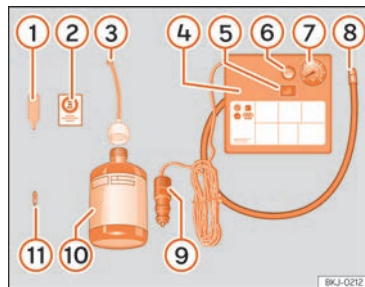

Fig. 193 Standard display: contents of the anti-puncture kit.
The anti-puncture kit is located underneath the floor covering in the luggage compartment. Includes the following components »» Fig. 193:
- Unscrew the tyre valve cap and insert. Use the device >>> Fig. 193 ① to remove the valve cap. Place it on a clean surface.
- Shake the tyre sealant bottle vigorously >>> Fig. 193 ⑩.
- Screw the tyre inflation hose >>> Fig. 193 ③ into the tyre sealant bottle. The bottle's seal will break automatically.
- Remove the filler cap >>> Fig. 193 ③ and screw the open end of the tube into the tyre valve.
- Replace the howitzer with the device >>> Fig. 193 ① onto the tyre valve.
- Screw the tyre inflation tube of the compressor >>> Fig. 193 ⑧ on the tyre valve.
- Check that the air evacuation screw is closed >>> Fig. 193 ⑥.
- Attach the connector >>> Fig. 193 ⑨ to the vehicle's 12 volt power outlet >>> page 174.
- Switch on the air compressor with ON/OFF switch >>> Fig. 193 ⑤.
- Attach the sticker >>> Fig. 193 ② to the instrument panel display, within the driver's field of vision.
Screw in the inflator tube >>> Fig. 193 **8** again and check the pressure on the gauge **7**.